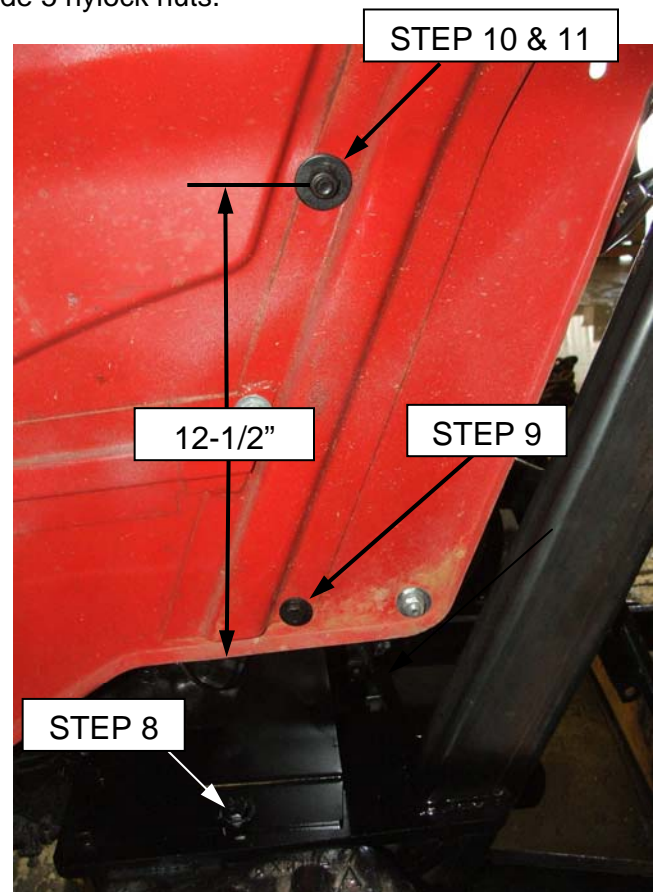

FIGURE 4
- 9) Align top bracket hole with a predrilled hole in fender. Secure using (2) 5/16-18unc x 1.25 grade 5 bolts, (4) 5/16" flat washers and (2) 5/16-18unc grade 5 nylock nuts. See figures 4.
- 10) Measure up 12-1/2" from bottom of fender and drill (1) 1/2" diameter hole through each fender and flange channel as shown in Figure 4.
- 11) Install the seat belt to each fender using (2) 7/16-14unc x 1.25 grade 5 bolts, (4) 7/16" flat washers and (2) 7/16-14unc grade 5 nylock nuts.